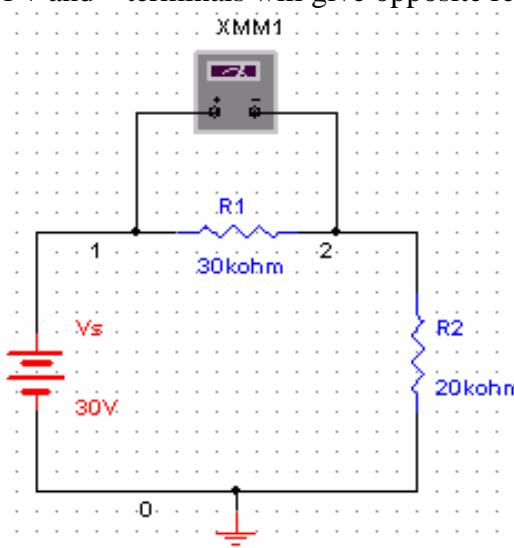

Figure 14: Multimeter connection for voltage measurement
- b. Click on **Multimeter** icon. Now click in the workspace to place the Multimeter. Drag it and place it near resistor R1 as shown in Figure 14. Make a connection from '+' terminal of Multimeter to the left pin of R1 and from '-' terminal to right pin of R1. Note that reversal of + and - terminals will give opposite readings.